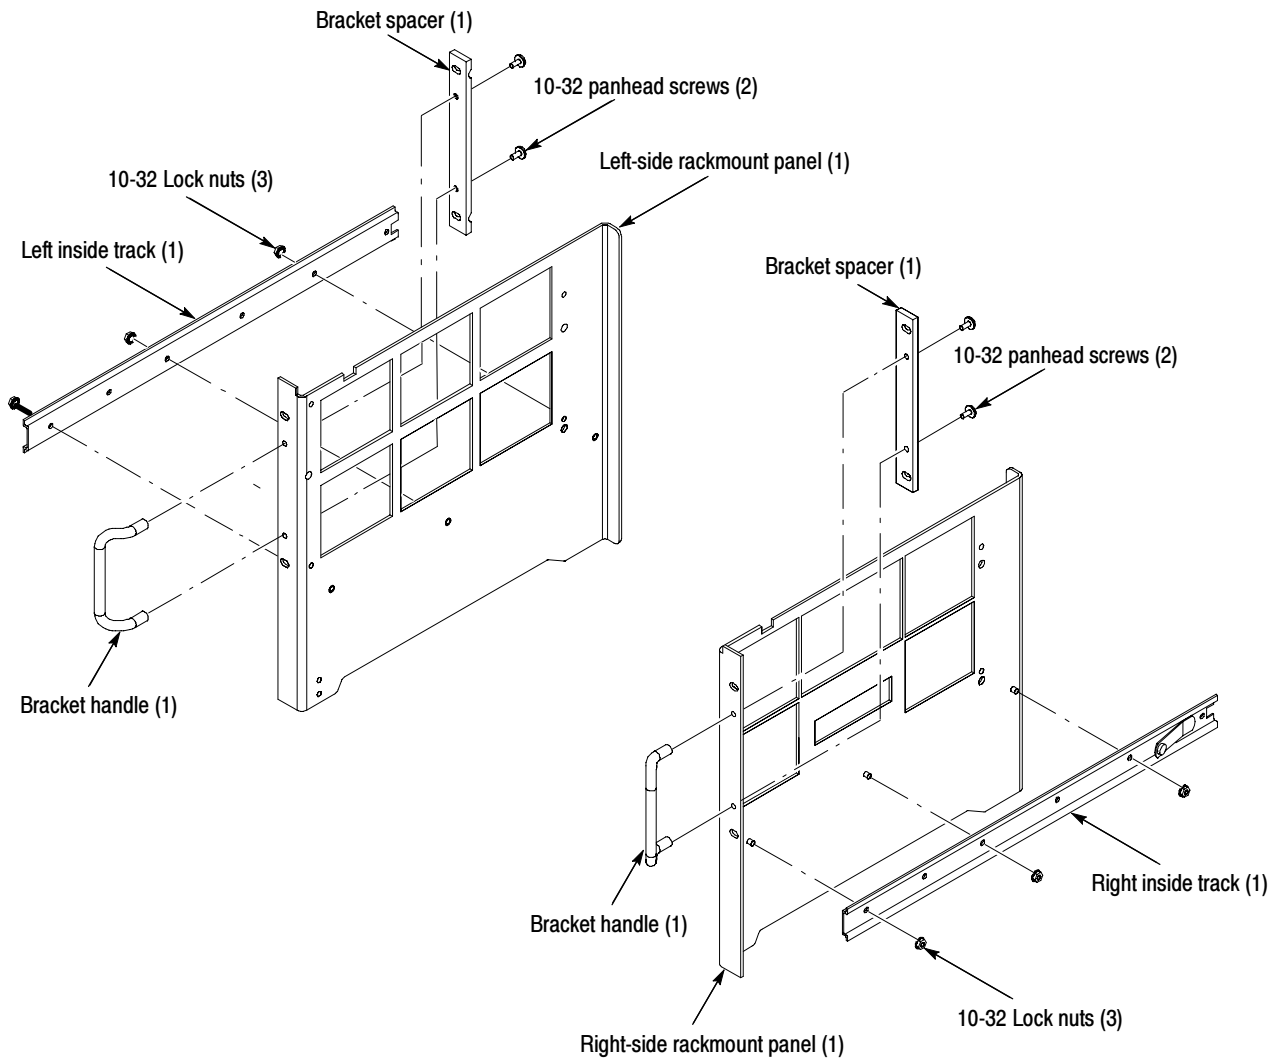

Figure 3: Rackmount panel preassembly
NOTE. Preassemble all sub-parts on the right and left-side panels before installing the rackmount panels on the instrument. Refer to Figure 3.
8. Install the bracket handle and bracket spacer to the right-side rackmount panel. Secure by using the two 10-32 panhead, Phillips screws, applying 15 inch-lbs of torque. Refer to Figure 3, on page 6.